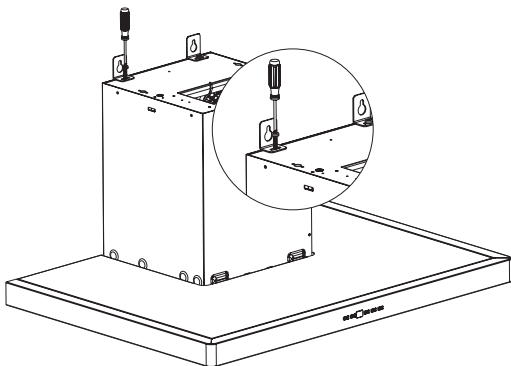

Figure 2
There are 2 (L) shaped suspension plates available in the installation accessories to suspend the appliance to the wall. These plates are supplied with a screw set to provide ease of installation. Screw these plates on M5 drive nuts on the cabinets with M5 x 40 screws before suspending the appliance. **Figure 2**